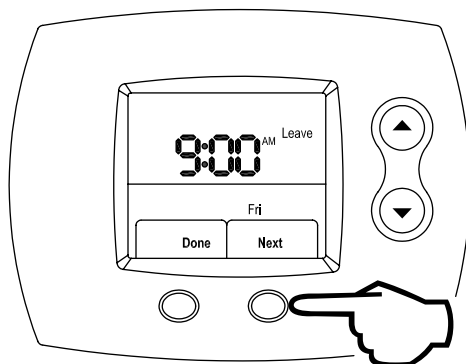

Figure 128
Step 11: Press the **RIGHT** (Next) button to lock in the Leave period start time, which is shown in Figure 128.